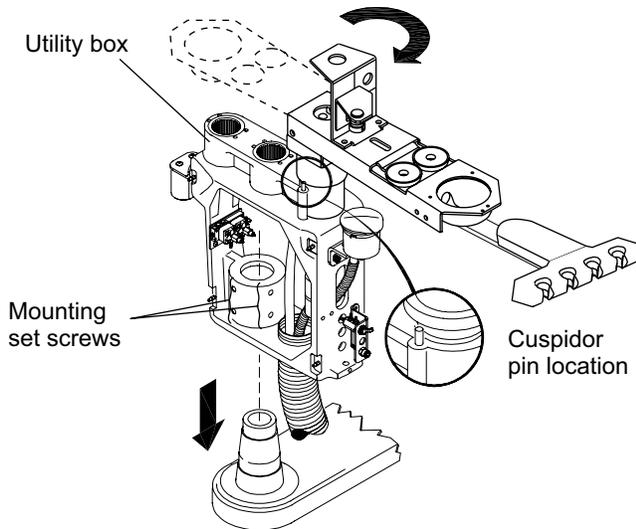
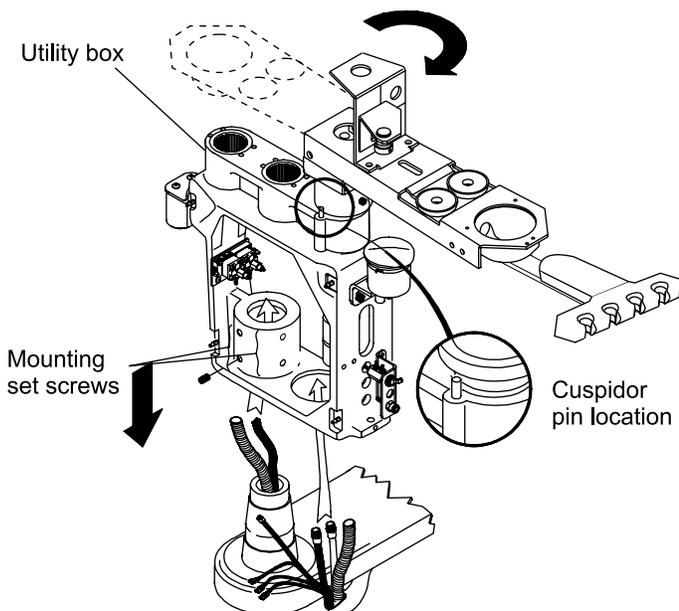

Figure 1A (External Umbilical)
Figure 1B (Internal Umbilical)
1. Locate the post-mounted utility center (PMU) in the delivery system box. Remove all items from box and remove packaging materials and tape from unit. Remove the two side covers from the utility center by pulling with both hands from the bottom, then the sides. (Note that one side cover is attached using ball studs and receivers, while the other is held in place by magnets.) Using a 3/16" hex driver, ensure that mounting set screws in the utility center are backed out enough to allow the mounting collar to pass freely over the unit mount hub (see figure 1A).
2. Install the utility center to the unit mount bracket as shown in figure 1A. Verify that the utility center is properly positioned with the water bottle to the front, the PMU aligned parallel to the chair rail and the cuspidor oriented towards the chair's backrest. If an internal umbilical system is to be installed, refer to figure 1B. Be careful to avoid pinching the tubing and cables coming up out of the chair mounting bracket hub. Snug mounting set screws to hold in place. Place (2) levels (at 90 degrees to each other) on top of pole holes. Level unit and tighten mounting set screws securely.
- a. Route the remaining tubings and cables out from under the chair bracket and up through the opening in the bottom of the utility center casting (figure 1B).